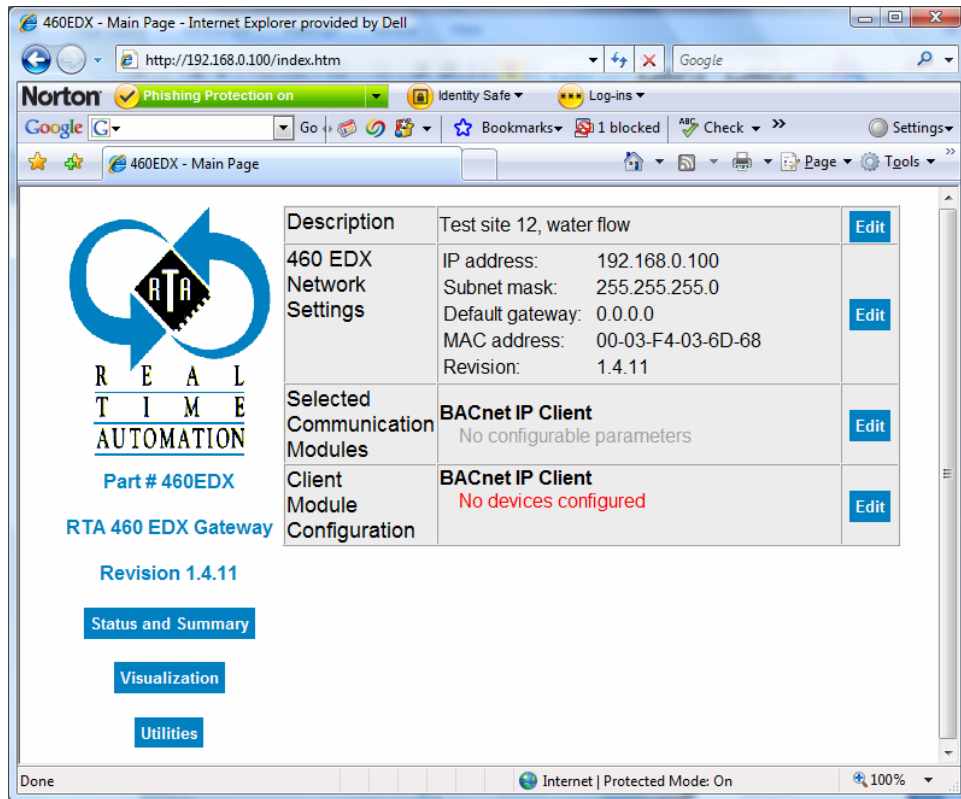

Figure 2-51 BACnet/IP Client Module Configuration
5. Click on the Return to Main button. The RTA 460 Gateway Main Page displays with a Client Module Configuration option. See Figure 2-51.